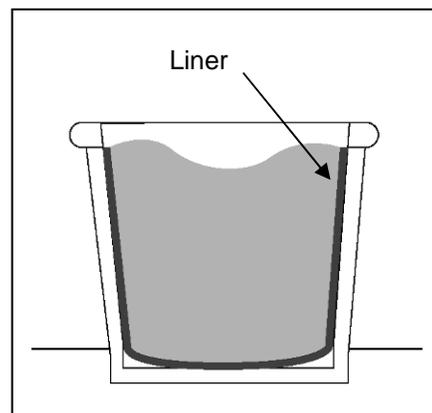

Fig. 4
4. If the container is not already watertight, use a plastic liner. Or if a clay pot is used, spray the inside of the pot with a clear acrylic sealant. Be sure to use a sealant that is safe for clay pots. Wait 24 hours for the sealant to dry before filling the container with water. Fig. 4